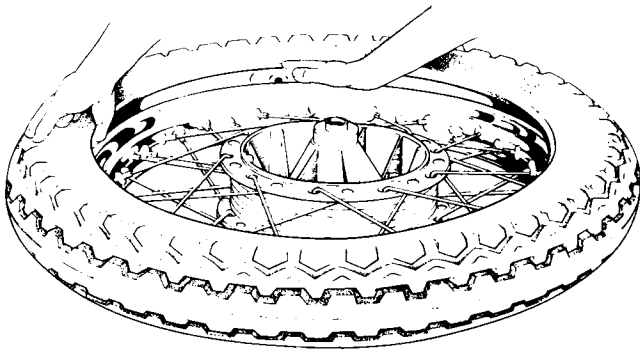

Fig. H24 Lifting cover and engaging security bolt to rim
- 3 Lift the free side wall as in *Fig. H24* and insert the security bolt less nut. Loosely fit the leather washer and nut.